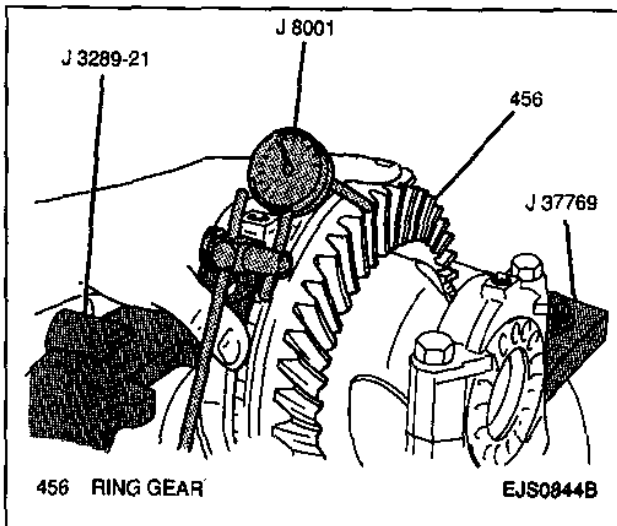

Figure 84—Installing Dial Indicator
**Figures 84 and 85**
1. Install a J 8001 to the differential carrier with the dial indicator plunger against a ring gear tooth (Figure 84).